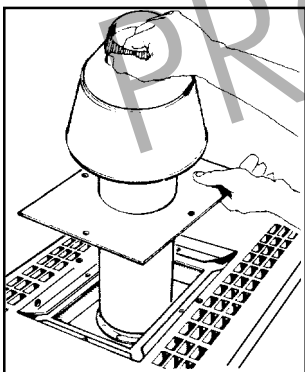

Figure 10.
10. Slide the adapter plate up over the bottom of the stack extension. Fit the stack extension, of the draft hood or the vent cap, on top of the collar of the flue transition plate (see Figures 10 and 11).